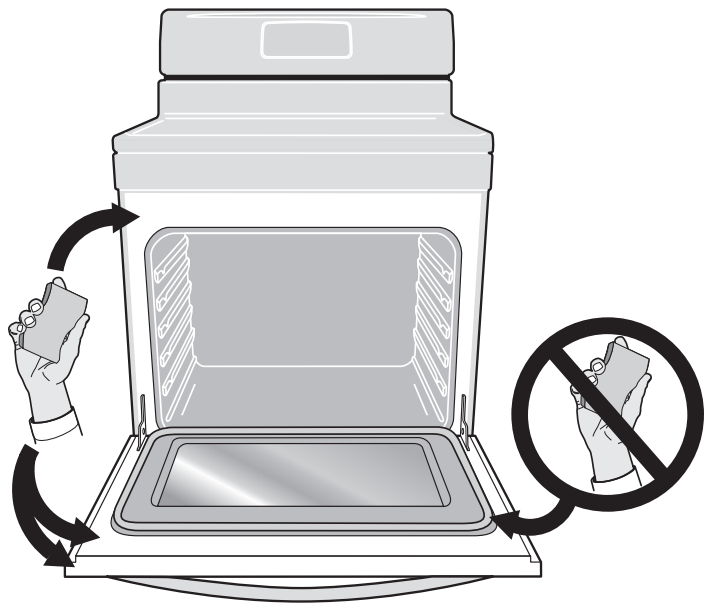

Fig. 1
- **DO NOT** clean the oven door gasket (See Fig. 1). The woven material of the oven door gasket is essential for a good seal. Care should be taken not to rub, damage or remove the gasket.
- Clean any soil from the oven frame, the door liner outside the oven door gasket and the small area at the front center of the oven bottom. These areas heat sufficiently to burn soil on. Clean with soap and water. These areas are shown in Fig. 1.